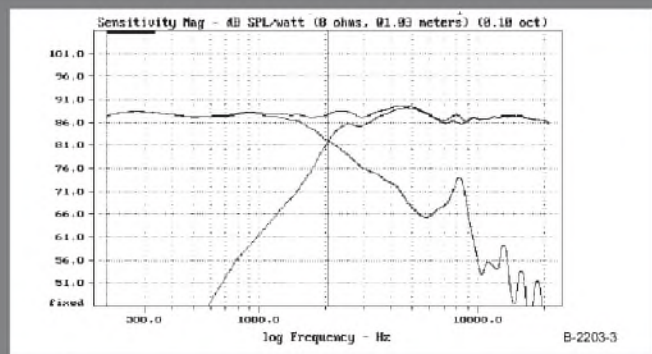

FIGURE 3: Froy system and driver responses.
*Figure 3* plots system and individual driver responses between 200Hz and 20kHz. This plot shows the crossover frequency for this sample to occur at 2061Hz, somewhat below the 2200Hz claimed in the SEAS literature. Notice the woofer pair response peak at 8.24kHz. SEAS claims the woofer peak is suppressed in the crossover
Returning to *Fig. 3*, you see that the woofer pair response falls off only 9dB in the octave above crossover and the primary woofer breakup peak is not suppressed. Contrast this with *Fig. 14* in reference 2, where response falls off 15dB in the first octave above crossover and the primary woofer peak is fully suppressed. Careful listening will determine what, if any, effect the untamed woofer modes have on sound quality.
Or perhaps the tweeter LF rolloff area around 3kHz (*Fig. 3*), where you see a mild but fast 2.5kHz peak-to-2.9kHz dip transition, represents (I further speculate) a lack of tweeter damping by, say, too high a driving impedance at this frequency range.